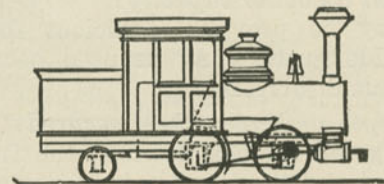
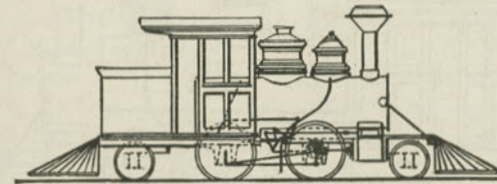

Fig. 7. Switching and Local Passenger Service, with Back Tank. Modified Forney Type.
Fig. 14. Switching and Local Passenger Engine.
A. On an extension of the frames, back of the fire-box, and borne by a pony truck. (See Fig. 7.)
Fig. 7. A fourth class has four wheels coupled, and a back tank; this being a double-ender and having a pony truck under the tank and another in front, besides two pilots. (Fig. 14.) A fifth class has four wheels coupled, a pony truck in front, and a saddle tank, as shown in